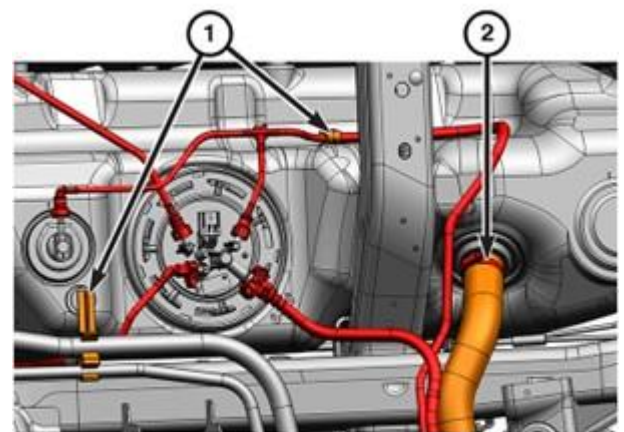

Figure 80 – Tank Connections
- 143. Loosen the clamp (2) and disconnect fill hose from fuel tank (Figure 80).
- 144. Remove the fuel vent lines from the retaining clips (1) (Figure 80).